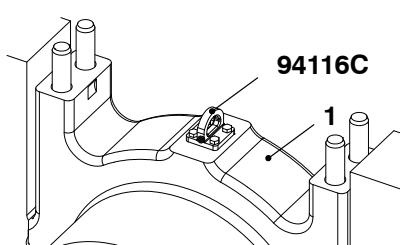

Fig. 4
- 13) Attach the lug (94116C, Fig. 4) to the main bearing cover (1).